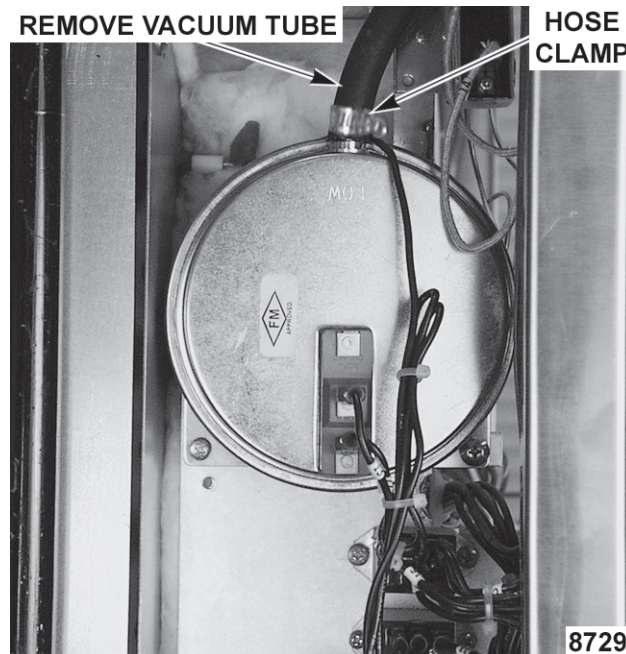

Fig. 11
- C. Loosen hose clamp (Fig. 11) and remove vacuum tube from the vacuum switch.